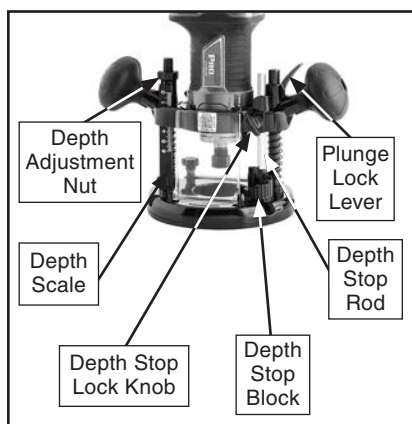

Figure 14. Plunge base in fixed position components.
2. Loosen depth stop lock knob (see **Figure 14**).
3. Raise depth stop rod (see **Figure 14**) to highest position and secure with lock knob, or remove rod from plunge base completely.
4. Push plunge base to its lowest position and engage plunge lock lever to secure (see **Figure 14**).